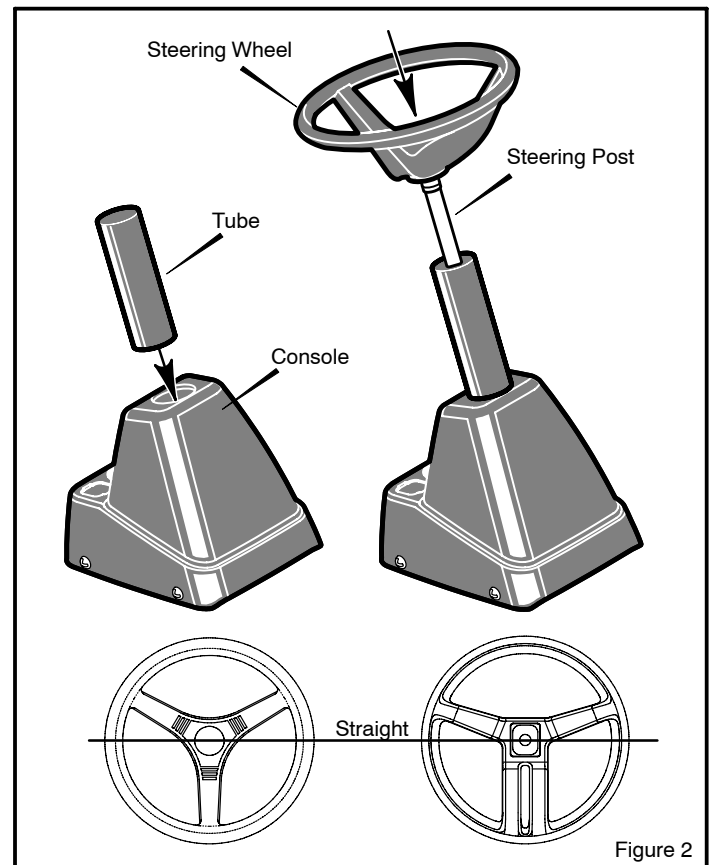

Figure 2
2. Slide the **tube** into the **console** (Figure 2). Make sure the end of the **tube** fits over the steering bushing.
NOTE: Before attachment of the steering wheel, make sure that the front wheels point forward and are straight. The steering wheel will have either 3-spokes or 4-spokes. For proper alignment of the steering wheel, see Figure 2.